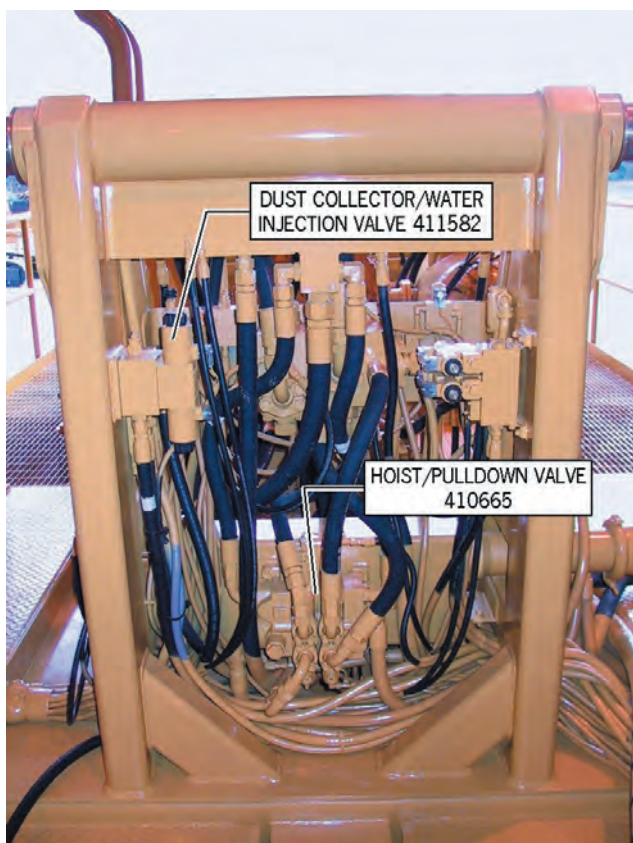

Fig. 7-28 Dust Collector/Water Injection Relief Valve 411582.
3. Install a 6000 PSI (414 bar) gauge in the relief valve (fig. 7-28) or, if machine is equipped with a hydraulic pressure test station, turn knob to DUST COLLECTOR.